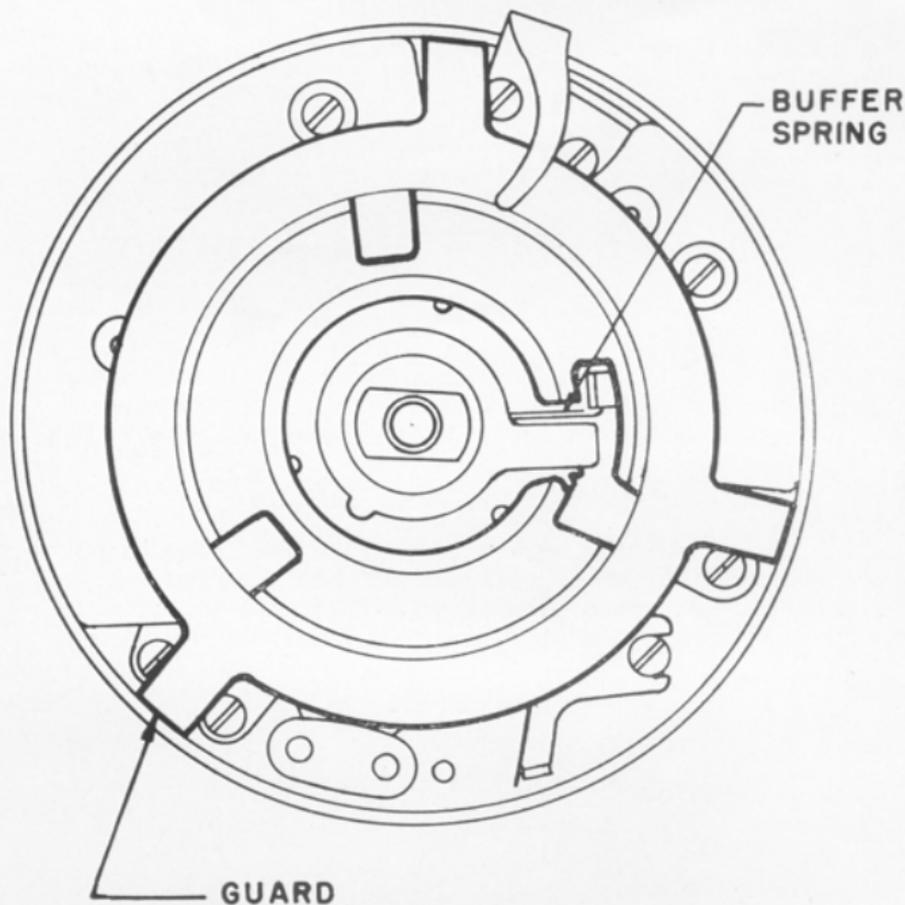

Fig. 8—5-Type Dial Showing Buffer Spring and Metal Guard
3.01 Parts shall not be missing or broken (a broken buffer spring on the 2-, 4- or 5-type dials is permissible). Refer to Fig. 8. Only parts listed in the supply section shall be replaced.
11.02 On 5-type dials, if number plate is removed for any reason, the dial shall be equipped with a vincellatate muslin dust cover (gasket P-347826) and a metal guard P-347836. The metal guard is designed to prevent interference between dust cover and main gear assembly. Refer to Fig. 8.